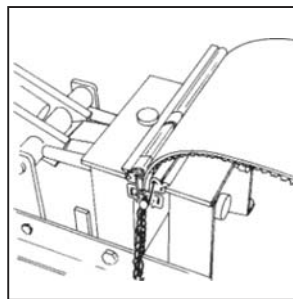
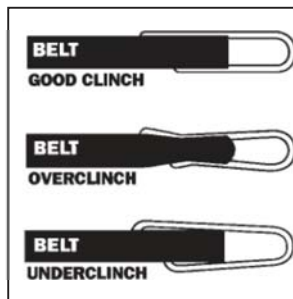

Figure 8
Figure 10
11. INSPECT LACE. If hook clinch is good (Fig. 10), slide Lacing Tool so other end aligns with edge of jaws (Fig. 8). Repeat Step 10.